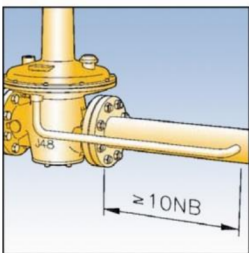

Fig. 2
2. Connect the impulse line (1/2"), using a jointing compound approved to national standards, and lead to a point downstream not less than ten times the nominal pipe diameter from the outlet. See Fig. 2.